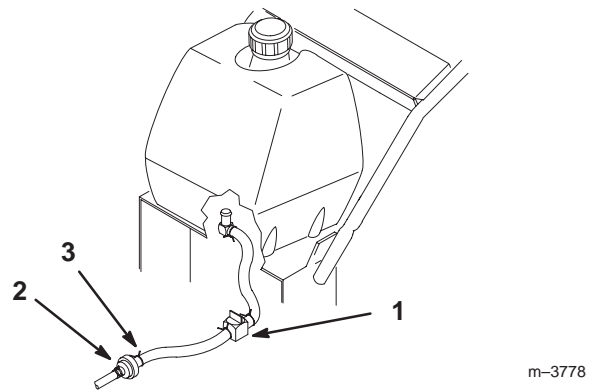

Figure 43
2. Close the fuel shut-off valve in fuel line (Fig. 43).
3. Squeeze the ends of the hose clamp together and slide it up the fuel line away from fuel filter (Fig. 43).
4. Pull the fuel line off the fuel filter (Fig. 43). Open fuel shut-off valve and allow gasoline to drain into a gas can or drain pan.
2. Close fuel shut-off valve (Fig. 43).
6. Open the fuel shut-off valve at the fuel tank (Fig. 43).